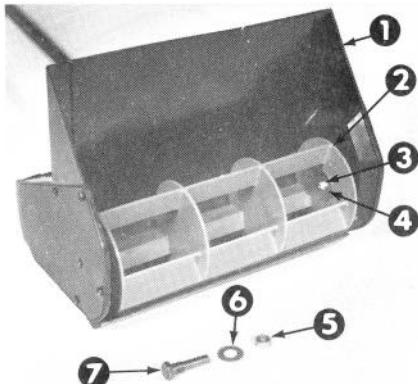

Figure 14
1. Remove the locknut and washer in the opposite end (Fig. 14).